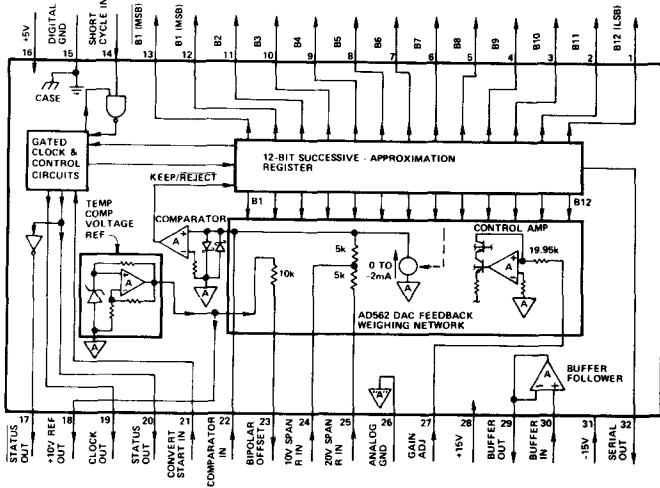

Figure 3. AD363 ADC Section (AD572) Functional Diagram and Pinout
| 18                   | "High" ("Low") Analog Input, Channel 15 (7)   | 18                                  | +10Volt Reference Out (See Figures 3, 7, 8, 11)  |
| 22                   | "High" ("Low") Analog Input, Channel 13 (5)   | 22                                  | Comparator In (See Figures 3, 7, 8)  |
Figure 3 is a block diagram of the Analog-to-Digital Converter Section (ADC) of the AD363.